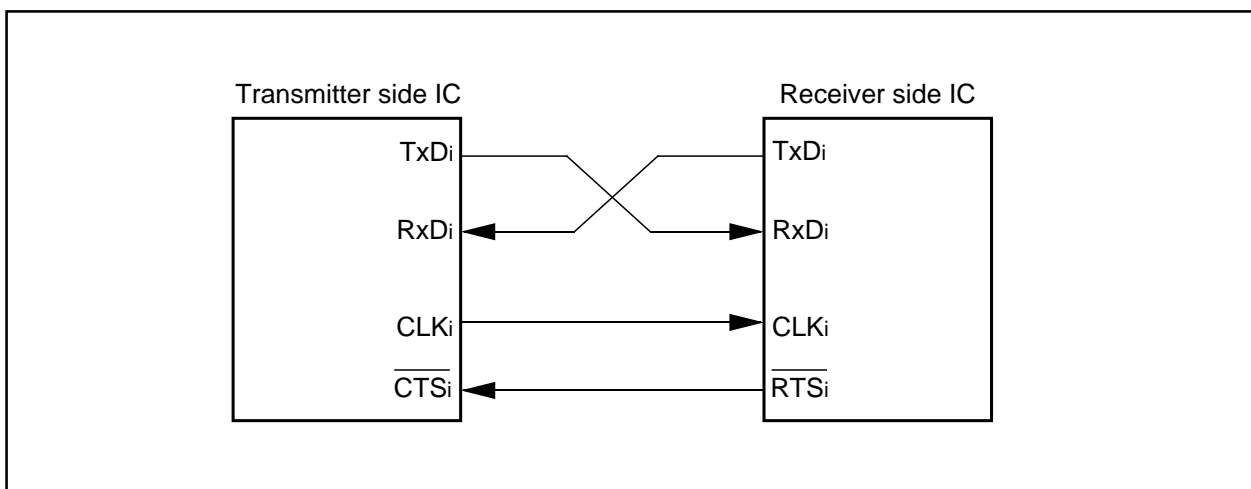

Figure 2.4.16. Example of wiring
- (1) With an external clock selected, and choosing the  $\overline{\text{RTS}}$  function, the output level of the  $\overline{\text{RTSi}}$  pin goes to “L” when the data-receivable status becomes ready, which informs the transmission side that the reception has become ready. The output level of the  $\overline{\text{RTSi}}$  pin goes to “H” when reception starts. So if the  $\overline{\text{RTSi}}$  pin is connected to the  $\overline{\text{CTS}}$  pin on the transmission side, the circuit can transmission and reception data with consistent timing. With the internal clock, the  $\overline{\text{RTS}}$  function has no effect. Figure 2.4.16 shows an example of wiring.